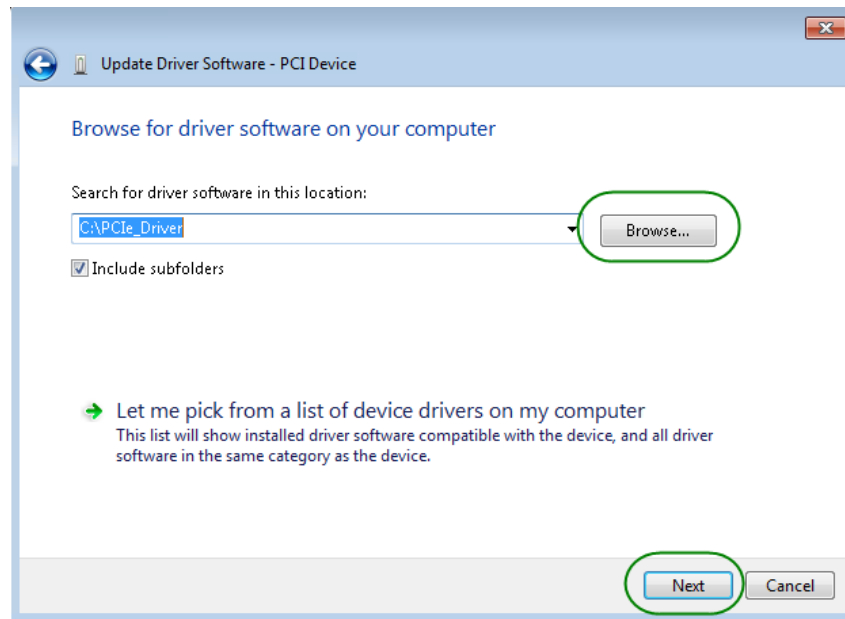

Figure 6-5 Browse for the driver software on your computer
7. In the **Browse for driver software on your computer** dialog, click the **Browse** button to specify the folder where altera_pcie_din_driver.inf is located, as shown in **Figure 6-5**. Click the **Next** button.